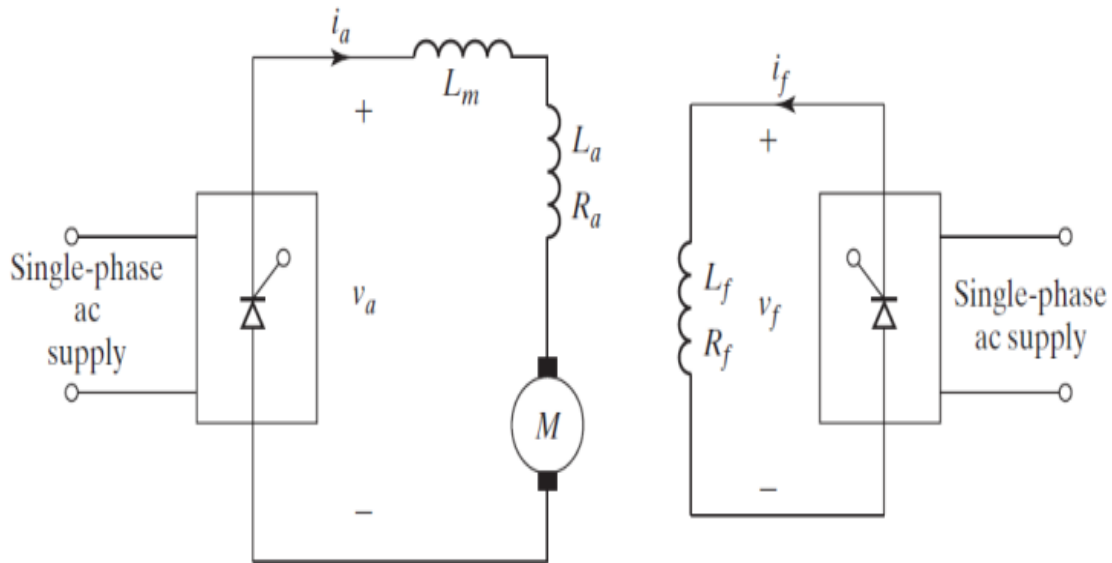

Figure 7. Basic circuit arrangement of a single-phase dc drive.
If the armature circuit of a dc motor is connected to the output of a single-phase Controlled rectifier, the armature voltage can be varied by varying the delay angle of the converter α_a . The forced-commutated ac–dc converters can also be used to improve the power factor (PF) and to reduce the harmonics. The basic circuit arrangement for a single-phase converter-fed separately excited motor is shown in Figure 7.